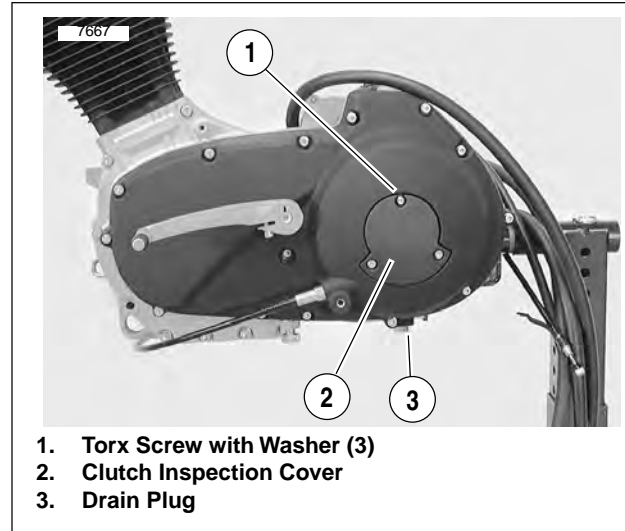

Figure 6-11. Primary Cover
- See Figure 6-11. Position a suitable container under drain plug (3). Remove plug and drain fluid.
- Wipe any foreign material from the magnetic drain plug (3). Reinstall plug. Tighten to 14-30 ft-lbs (19.0-54 Nm).
- See Figure 6-11. Install clutch inspection cover and new gasket with three TORX screws with washers. Tighten in a crosswise pattern to 7-9 ft-lbs (9.5-12.2 Nm).